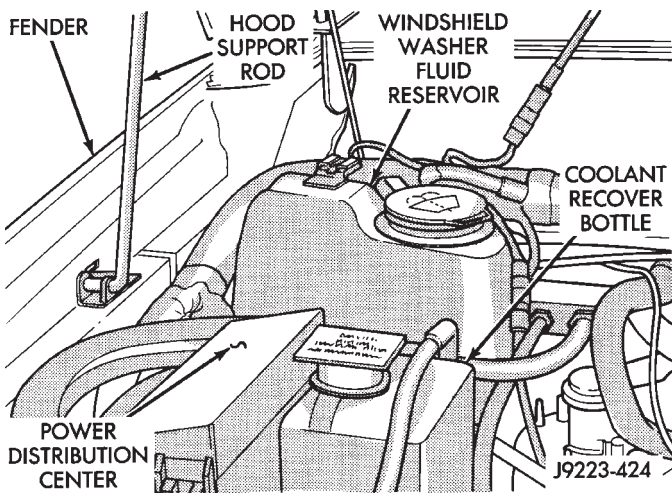

Fig. 39 Coolant Recovery Bottle, Windshield Washer Fluid Reservoir & Hood Support Rod
- remove windshield washer reservoir from fender inner panel (Fig. 39);
(15) Right fender only: install the A/C Receiver/Drier on the fender inner panel.
(16) Right fender only: install the vapor canister on the fender inner panel. Tighten the vapor canister screws to 5 N·m (45 in-lbs) torque.
(17) Right fender only: install the PDC, coolant recovery bottle and speed servo on the fender inner panel.
(18) Right fender only: install the hood ajar switch, if equipped. Tighten the screws to 2 N·m (15 in-lbs) torque.
(19) Right fender only: install the windshield washer fluid reservoir on the inner panel (Fig. 39).
(20) Right fender only: install the battery tray and battery on the inner panel.
(21) Right fender only: if equipped, install the radio antenna. Tighten the nut/escutcheon to 4.5 N·m (40 in-lbs) torque. Tighten the power antenna bracket screws to 2 N·m (20 in-lbs) torque.